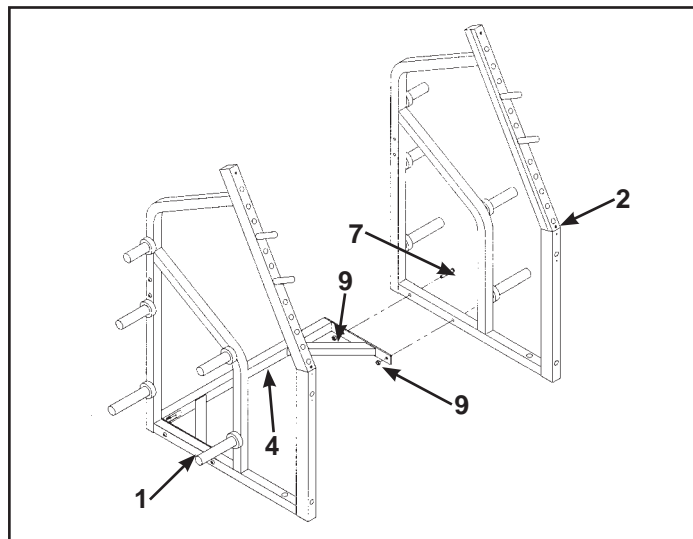

Figure 4
- D. Repeat Steps 4B and 4C to attach other side. See Figure 4. Do not tighten hardware at this time.